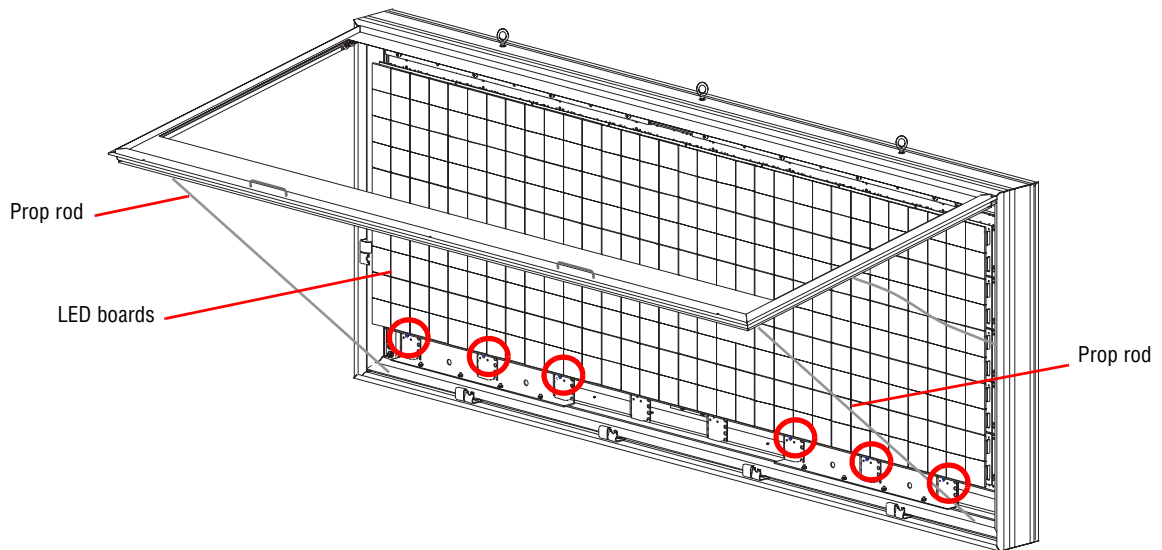

Figure 18: Internal vertical rail screws
6. Refasten screws to the internal vertical rails. See Figure 18, “Internal vertical rail screws,” on page 38.